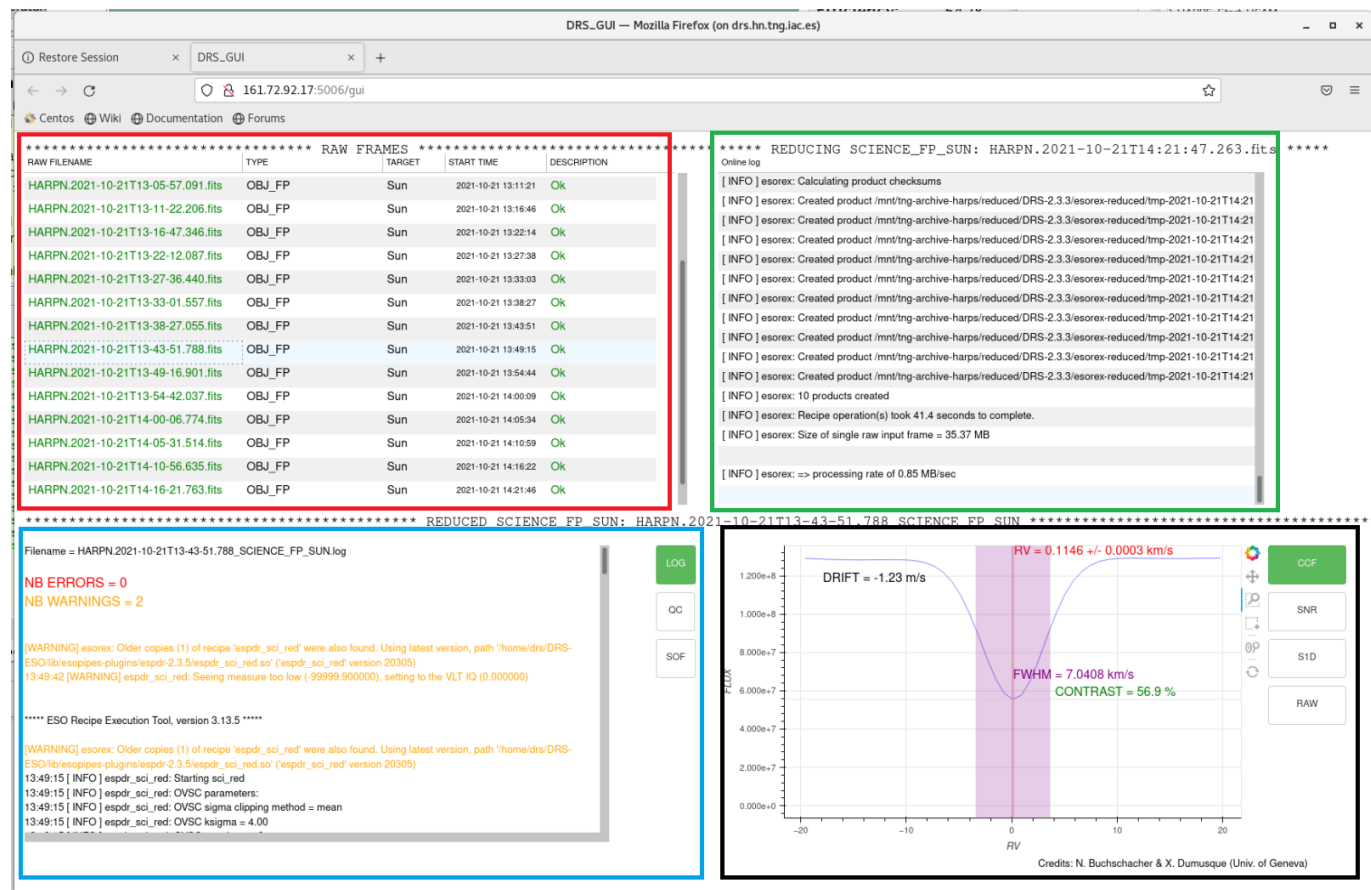

Figure 4 - The WEB GUI
**The WEB GUI can be divided into four quadrants (Figure 4):**